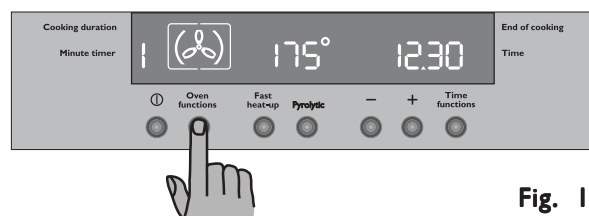

Fig. 10
- 1) Place food in the oven, switch on the oven, select a cooking function and adjust the cooking temperature, if required (Fig. 10).